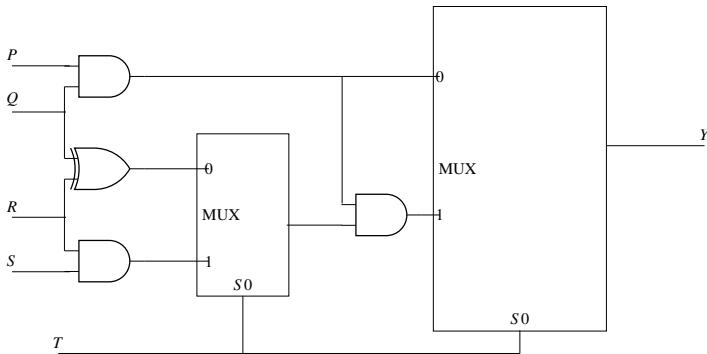

Fig. 4.13
23. If all the inputs P, Q, R, S and T are applied simultaneously and held constant in Fig. 4.13, find the output Y . (GATE EC 2021)